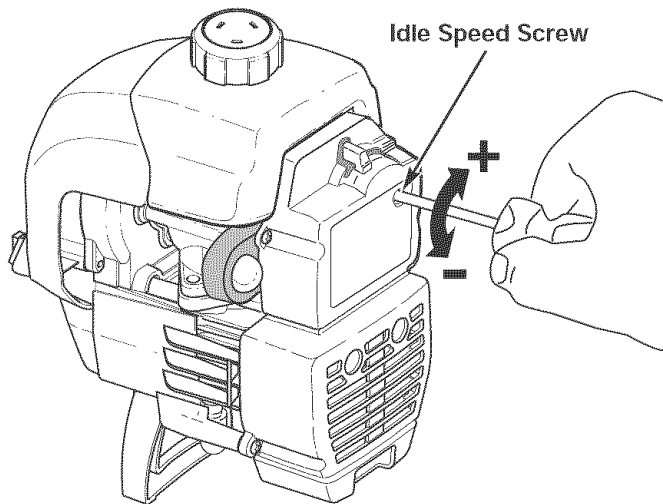

Fig. 27
The idle speed of the engine is adjustable through the air filter/muffler cover (Fig. 27).
2. Release the throttle trigger and let the engine idle. If the engine stops, insert a small phillips screwdriver into the hole in the air filter/muffler cover (Fig. 27). Turn the idle speed screw in, **clockwise**, 1/8 of a turn at a time (as needed) until the engine idles smoothly.